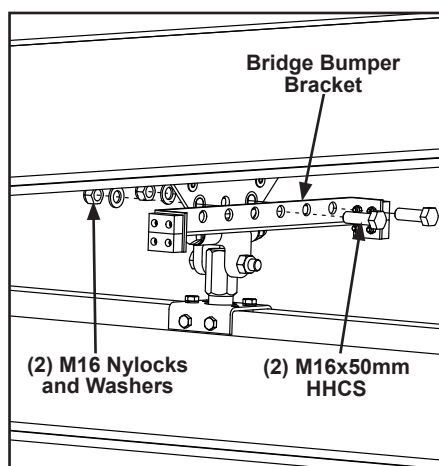

Figure 3-142
- Step 1. Remove the two (2) M16 x 50mm HHCS, M16 Nylocks, and washers from the bridge bumper bracket assembly.
- Step 2. Align bolt hole pattern on bridge bumper with end truck bolt hole pattern as shown below. See Figure 3-142.
- Step 3. Insert the two (2) M16 x 50mm HHCS, M16 Nylocks, and washers removed in step 1 through the bridge bumper bracket assembly and end truck. **Tighten until bolts are snug + ¼ turn.** Do not over tighten. Over tightening could cause bracket to bend. See Figure 3-142.